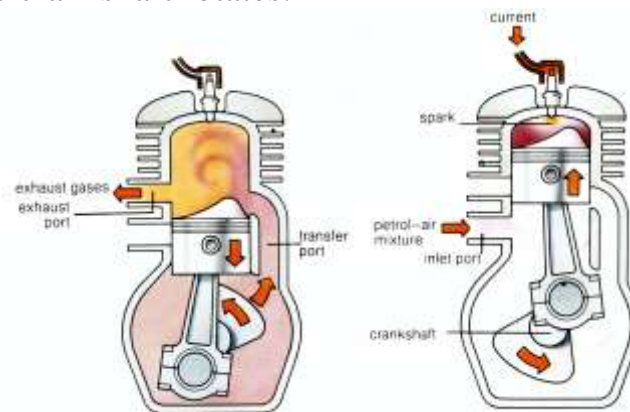

Fig. 4. Working of two stroke cycle engine
2.5.2 Two stroke cycle engine In such engines, the whole sequence of events i.e. suction, compression, power and exhaust are completed in two strokes of the piston and in one complete revolution of the crankshaft (Fig.4). There is no valve in this type of engine. Gas movement takes place through holes called ports in the cylinder. The crankcase of the engine is gas tight in which the crankshaft rotates.